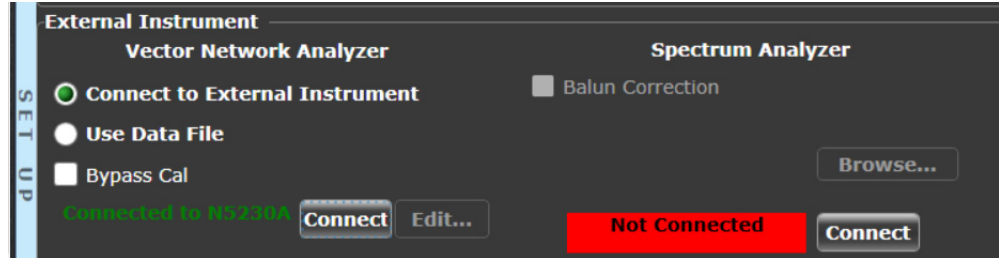

Figure 44 Connection status after the test application detects the Vector Network Analyzer
- Once the 25GBASE-T Ethernet Test Application detects the Vector Network Analyzer, it is indicated on the **Set Up** tab as shown in Figure 44.